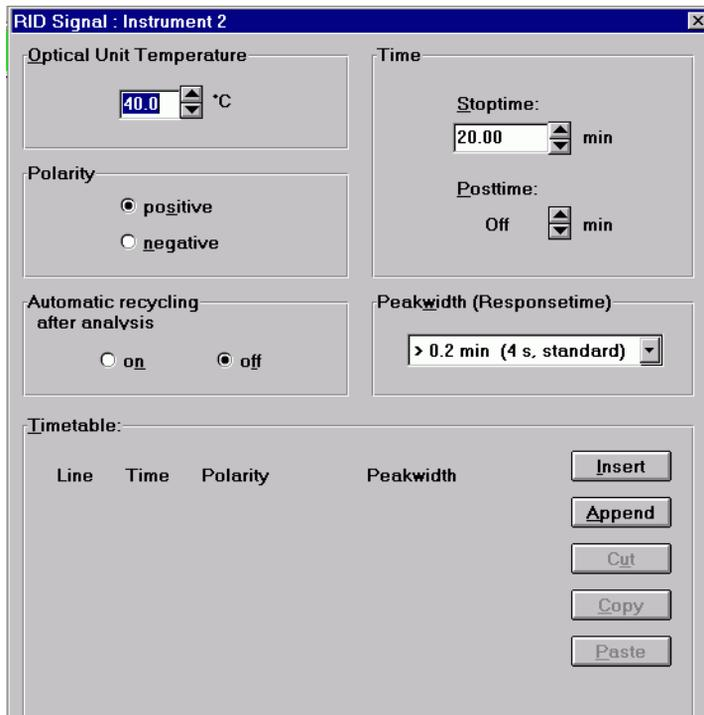

Figure 11 RID Baseline Check Parameters
- 3 Set the RID setpoints according to Figure 11.